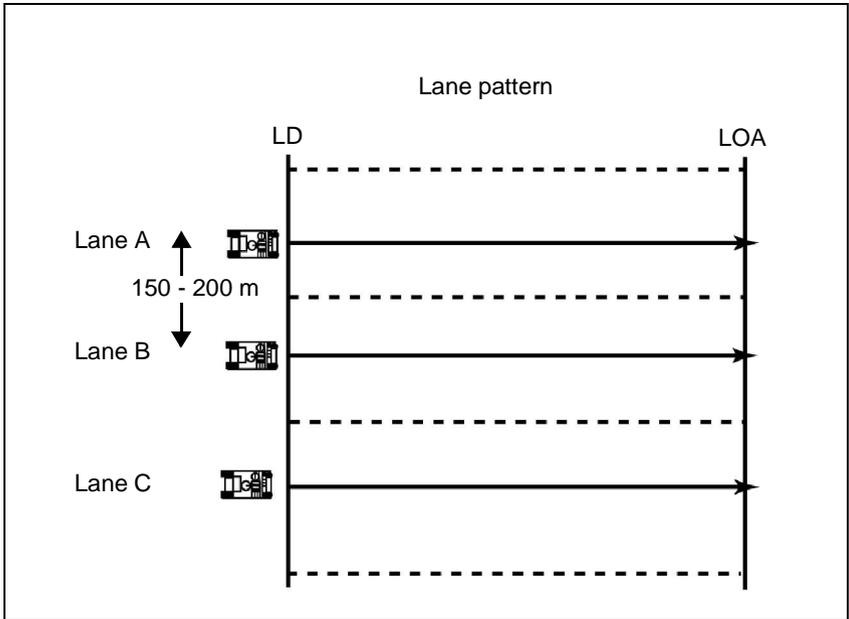

Figure 03-3-D0B17-1
3. The vehicle commander verifies each boundary (north, south, east, and west) for the specific area of interest according to the OPOD. See *Figures 03-3-DOB17-1* and *03-3-DOB17-2*.